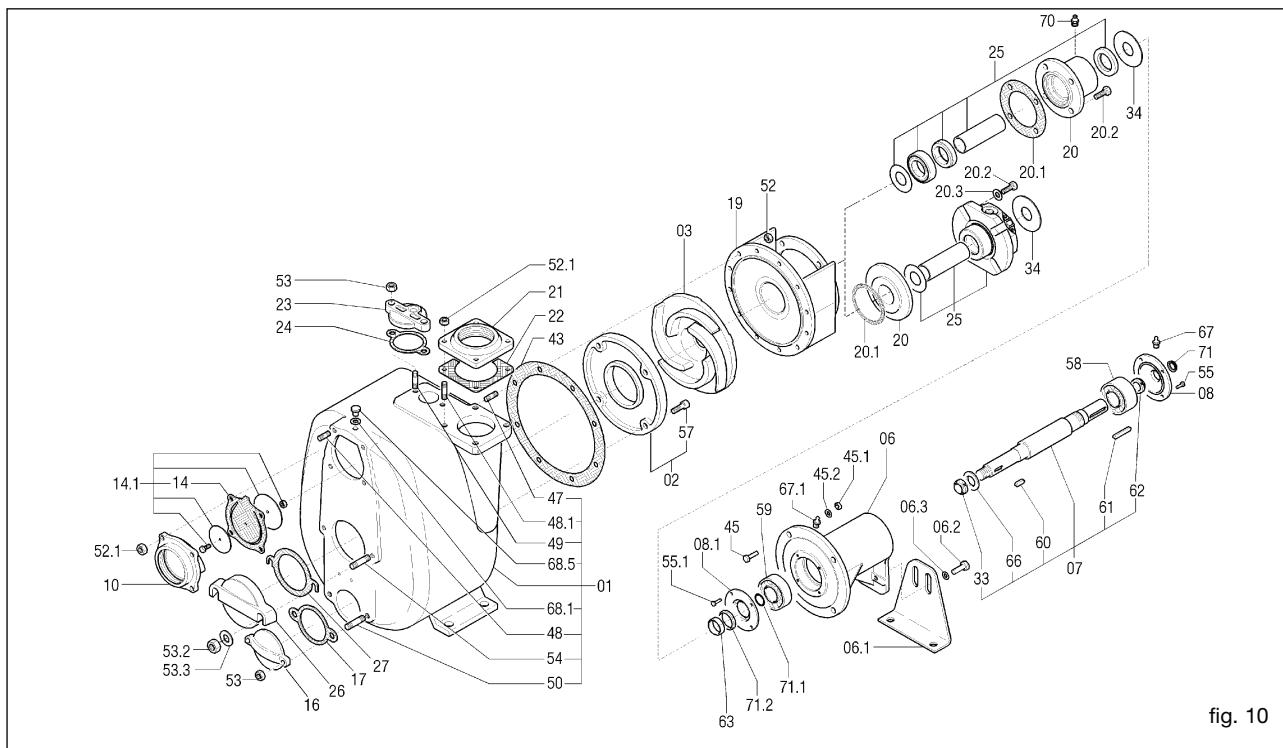
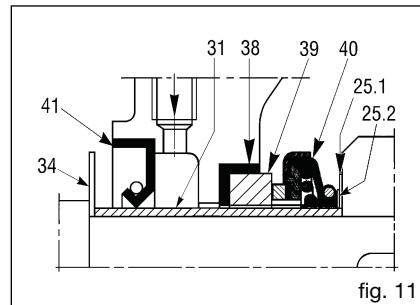
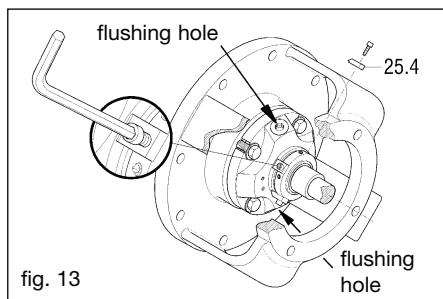

fig. 10
fig. 11
fig. 13
The suction line must have a diameter equal to that of the pump suction port (for diameters greater than that of the pump port, consult Varisco). If possible, avoid curves, elbows and constrictions which can limit the flow of liquid to the pump. Do not install a foot valve: the pump has a non return valve (14) incorporated in the suction port (fig. 10).
An exploded view drawing is provided as an example (fig. 10).
### 13.2 Replacing the impeller (fig. 10)
### 13.3 Replacing the wear plate (fig. 10)
### 13.4 Replacing the check valve (fig. 10)
### 13.5 Replacing the mechanical seal type 1 - 2 - 3 (figs. 10, 11, 12)
### 13.6 Replacing type 4 - 5 cartridge seals (fig. 10, 13, 14, 15, 16)
- Unscrew the nuts (52) (fig. 10) and remove the pump casing, taking care not to damage the casing gasket (43)
- Block the impeller (03) and remove the self-locking impeller nut (33)
- Fix the seal lock setting plates (25.4) in their seats (fig. 13)
- Remove the setting plates (25.4) which hold the seal (fig. 13) and fix them in the appropriate holes in the flange so that they can be used again to remove the seal
- In all models, the distance between the top of the impeller blades and the surface of the wear plate must be between 0.3 - 0.6 mm (fig. 19). For the 12" model, the distance between the impeller and the front and rear wear plates must be between 0.6 - 1 mm (fig. 22). To achieve this, dimensions A and B in figs. 17, 18, 20, 21 must be as nearly as possible equal. To this end, use the shims (25.2) (fig. 11) supplied with spare mechanical seals. These shims are used to move the impeller further forward if it is too far from the front wear plate or too near the rear wear plate. The shims should be mounted between the seal support ring (25.1) (fig. 11) and the impeller. Further adjustments can be carried out using casing gaskets (and rear wear plate gaskets on models which fit these). The presence of the casing gasket (43) (fig. 10) 0.5 mm thick then creates the correct distance (fig. 19).
### 13.8 Maintenance of the bearings (fig. 10)